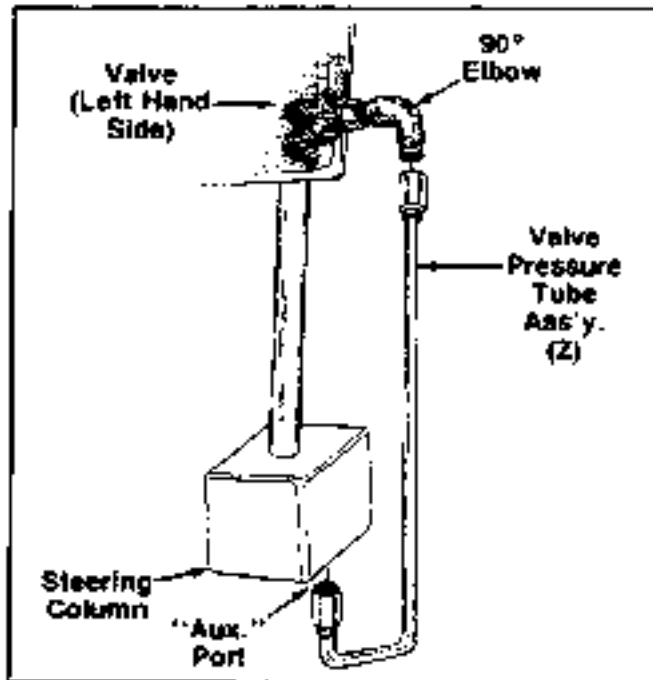

FIGURE 21.
13. Assemble the valve pressure tube assembly (Z) to the 90° tube elbow located on left hand side of valve. Do not tighten at this time. See figure 21. Assemble the other end of the valve tube assembly to the "Aux." port on bottom of steering column and tighten securely. See figure 21